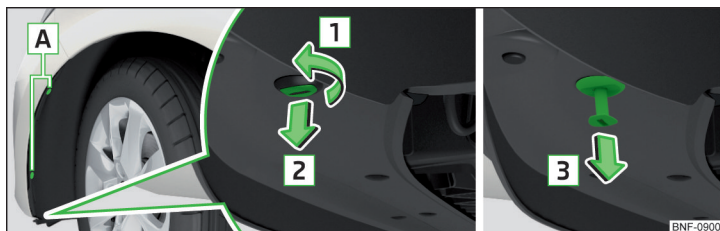

Fig. 176 Remove wheel arch trim
- Use the on board tool to remove screws **A** » Fig. 176 from the wheel well.
- Push in the part of the expansion rivet with a slit **2** and turn it a quarter of one turn in the opposite direction to arrow **1** » Fig. 176.